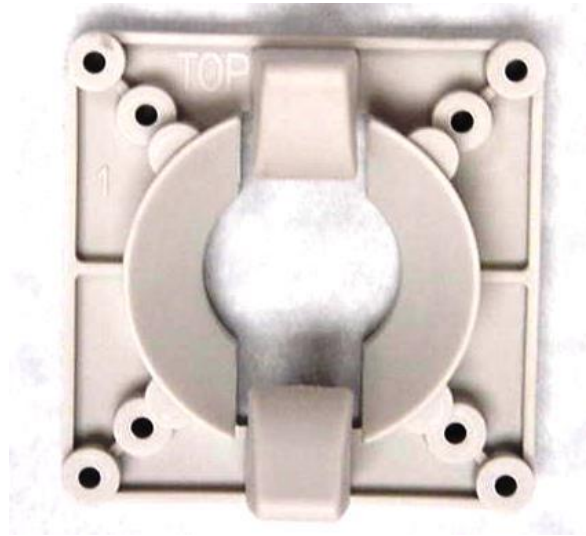

Figure 8 - Inner Mounting Plate
2. Remove two (2) screws (blue arrows) allowing “On-Off” lock-out housing to be separated from backing plate.
3. Remove four (4) screws (white arrows) allowing disassembly of backing plate, gasket and inner mounting plate.
4. Sandwich the control box door between the inner mounting plate on the inside of the control box door (Figure 8) and the backing plate with gasket on the outside of the door (Figure 9). Both have stamped labels indicating “top” to insure correct alignment.